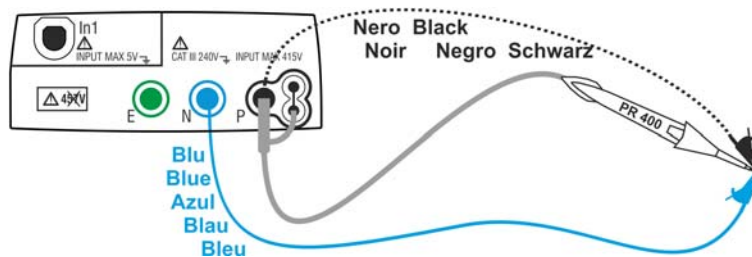

Fig. 7: Calibration of single cables and remote probe
2. Short the leads of the measurement cables as in Fig. 7 making sure that the conductive parts of alligator clips are well in contact.